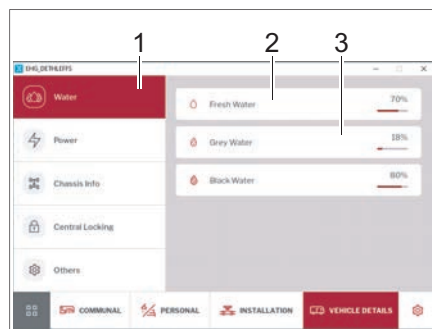

Fig. 264 Water supply
- Click on the *Water Supply* (Fig. 264,1) button. The fill level in the fresh water (Fig. 264,2) and waste water tank (Fig. 264,3) will be displayed in %.